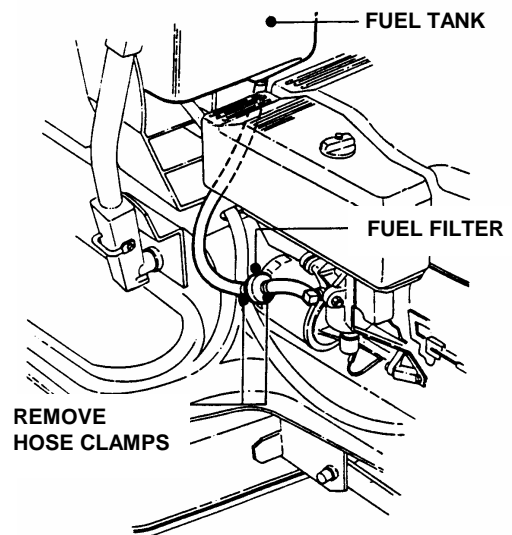

FIGURE 3.13
2. Locate fuel filter. Remove hose clamps and fuel hoses from both sides of fuel filter. See Figure 3.13.